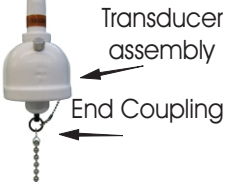

Figure 2
3. To connect the probe to the transducer, simply snap the free end of the bead chain on the top of the probe into the end coupling connected to the split ring located at the bottom of the transducer. (See **Figure 2**) The bead **MUST** snap in place or it is not seated correctly. Screw the transducer assembly onto the tank's 2" pipe nipple. **The probe should never touch the bottom of the tank. Refer to the QUICK START GUIDE included with the gauge before installation to know the correct measurements you need.**